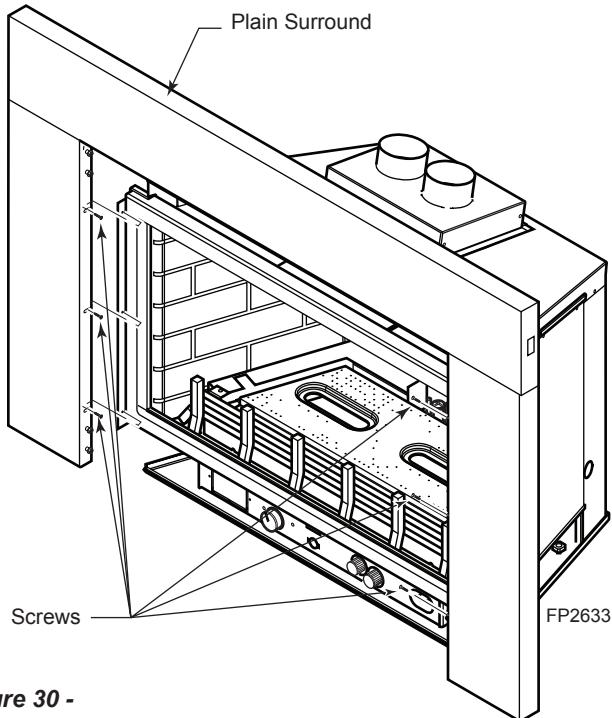

Figure 30 -
3. Attach surround to unit with six (6) screws provided. *Figures 30 & 31*